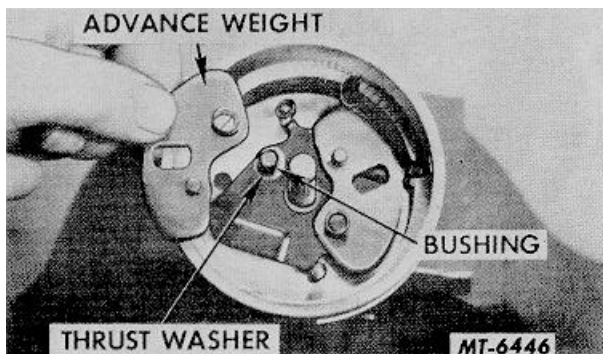

Fig. 24 Removing Advance Weights
12. Remove advance weights, bushings and thrust washers (Fig. 24).